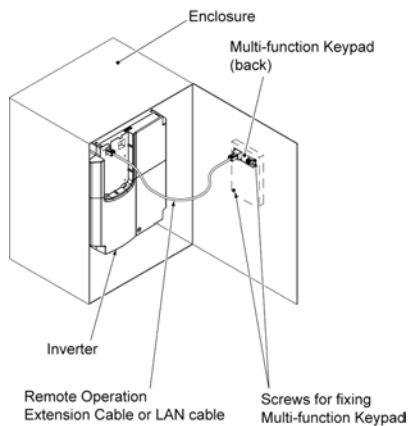

Figure 2.30 Mounting Multi-function Keypad on the Enclosure Wall
- Mounting a keypad on the enclosure wall (Refer to Figure 2.30.)